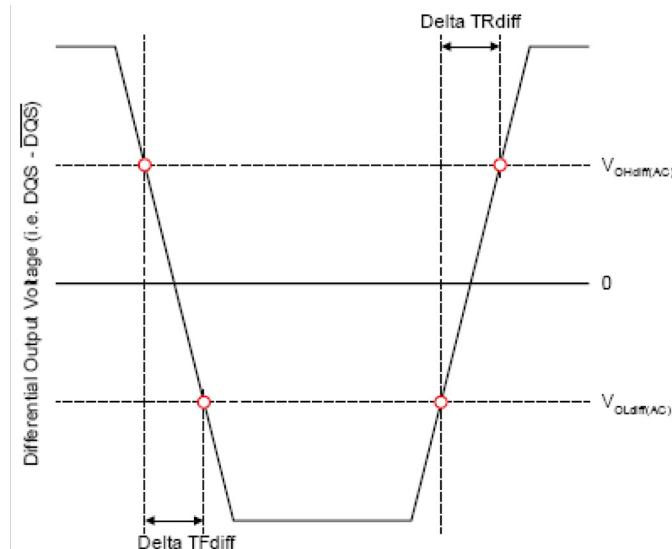

Figure 92 — Differential Output Slew Rate Definition
With the reference load for timing measurements, output slew rate for falling and rising edges is defined and measured between VOLdiff(AC) and VOHdiff(AC) for differential signals as shown in Table 35 and Figure 92.